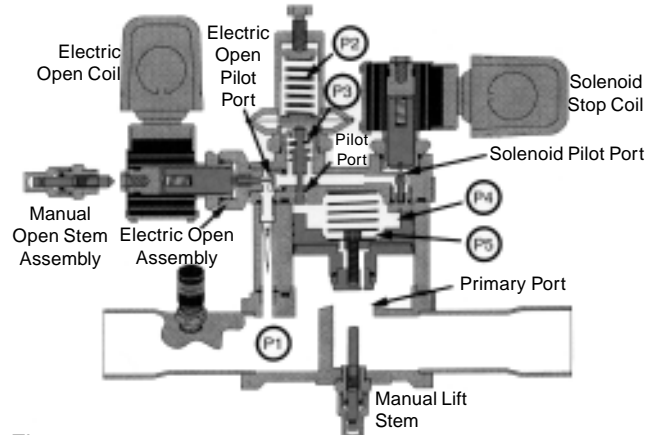

Figure 3
**Electric Open Operation (Figure 3 — Two temperature - electric)**